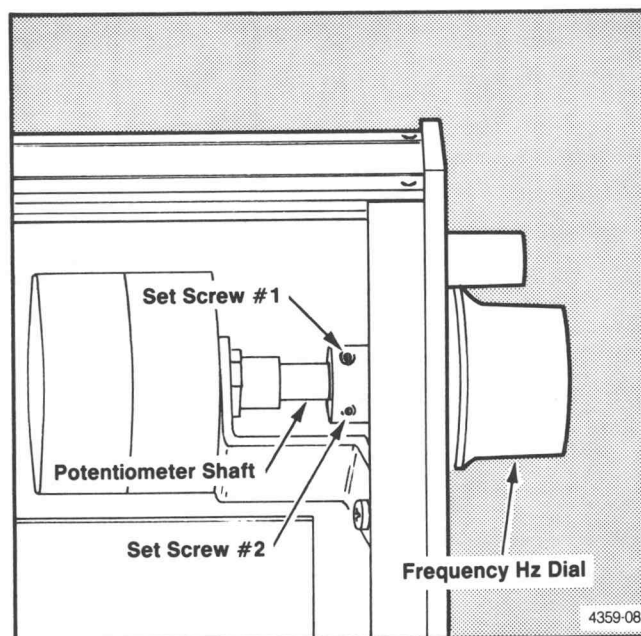

Fig. 4-7. FREQUENCY Hz dial adjustment.
c. ADJUST—the SG 505 frequency for 3.200 kHz as follows: Loosen internal set screw #1 located on the reduction drive shaft of the FREQUENCY Hz potentiometer assembly R530 and R520 (see Fig. 4-7). Position the FREQUENCY Hz dial to 3.2 (the first mark to the right of 3 on the dial). Loosen set screw #2 and turn the potentiometer shaft with pliers until the counter reading is 3.200 kHz. Tighten set screw #2 without moving the FREQUENCY Hz dial. Turn the FREQUENCY Hz dial to gain access to set screw #1 and tighten. Reposition the SG 505 FREQUENCY Hz dial to 3.200 kHz.